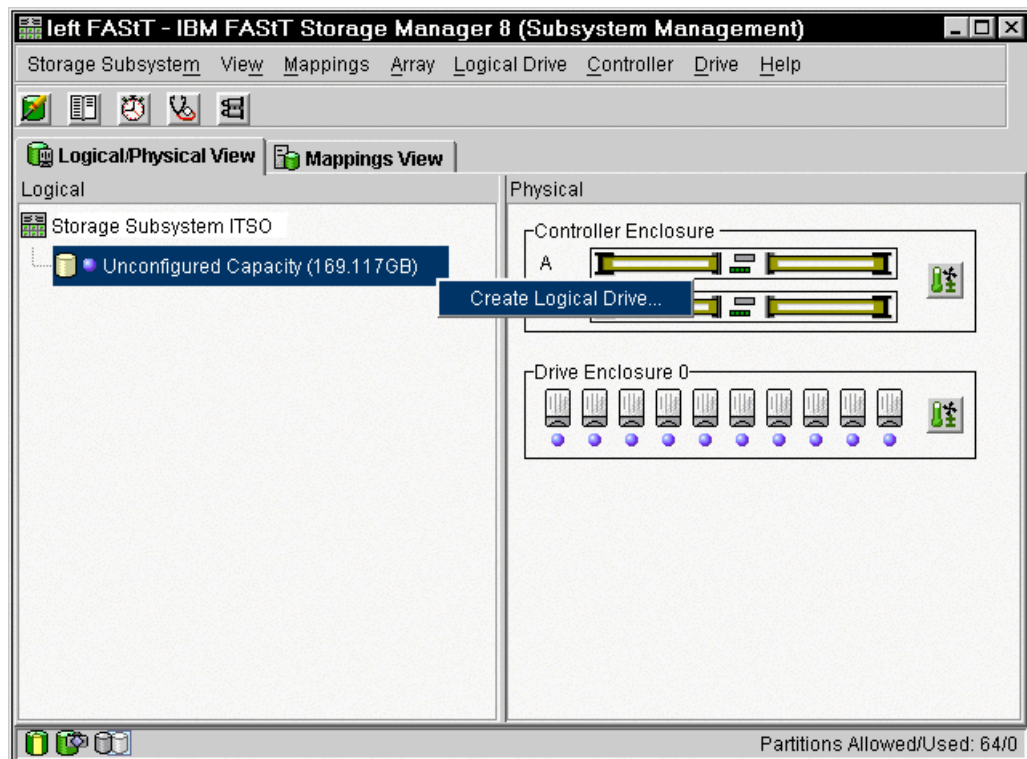

Figure 4-30 Creating a logical drive
1. In the Subsystem Management window (Figure 4-30), right-click the unconfigured capacity and select **Create Logical Drive**.